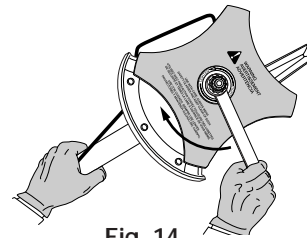

Fig. 14
- Hold the locking rod in place by grasping it next to the boom of the unit (Fig. 14).
- While holding the locking rod, loosen the nut on the blade by turning it clockwise with a 5/8 inch closed-end or socket wrench (Fig. 14).